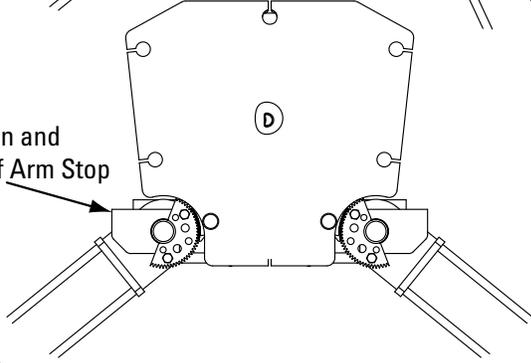

Fig. 23c
**Note:** Arm stop will be required on the drive in side of the power unit side. Install at same time as arm pin, Fig. 23b. Notice the orientation of arm stop in Fig. 23c.